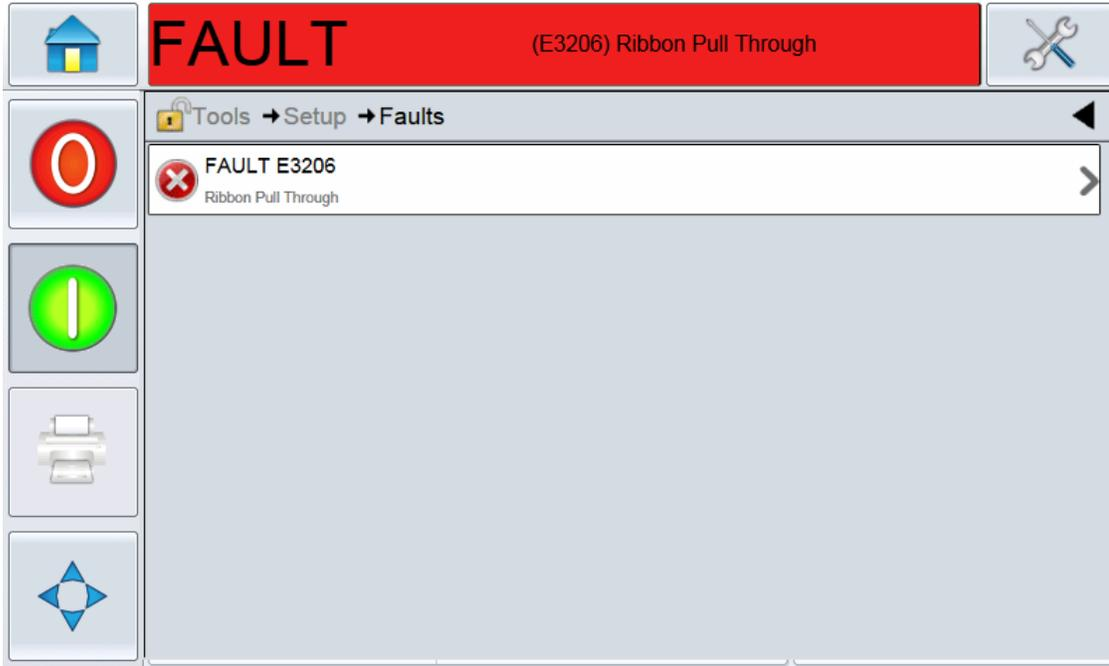

Figure 8-4: Fault Selection
1. Touch the red FAULT message to view the list of faults (see Figure 8-4).